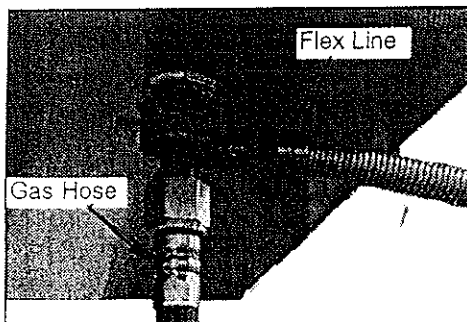

Fig.9
6. Attach the gas hose assembly and the flex line to the "T" Flare Fitting. (See Fig 9)